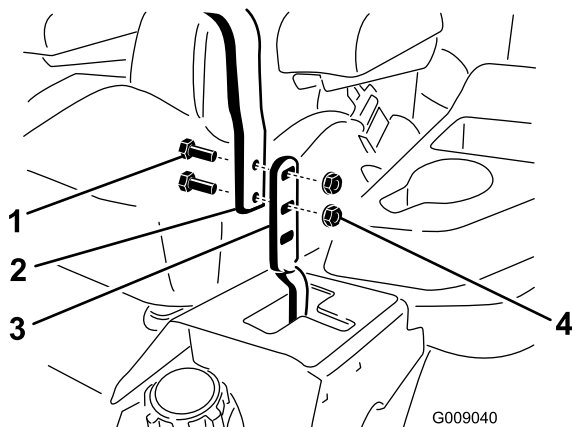

Figure 76
3. Loosen the bolts and flange nuts installed in the levers (Figure 76).
4. Align the levers in the front-to-rear position by bringing the levers together to the NEUTRAL position, slide them until they are aligned, and tighten the bolts (Figure 76).